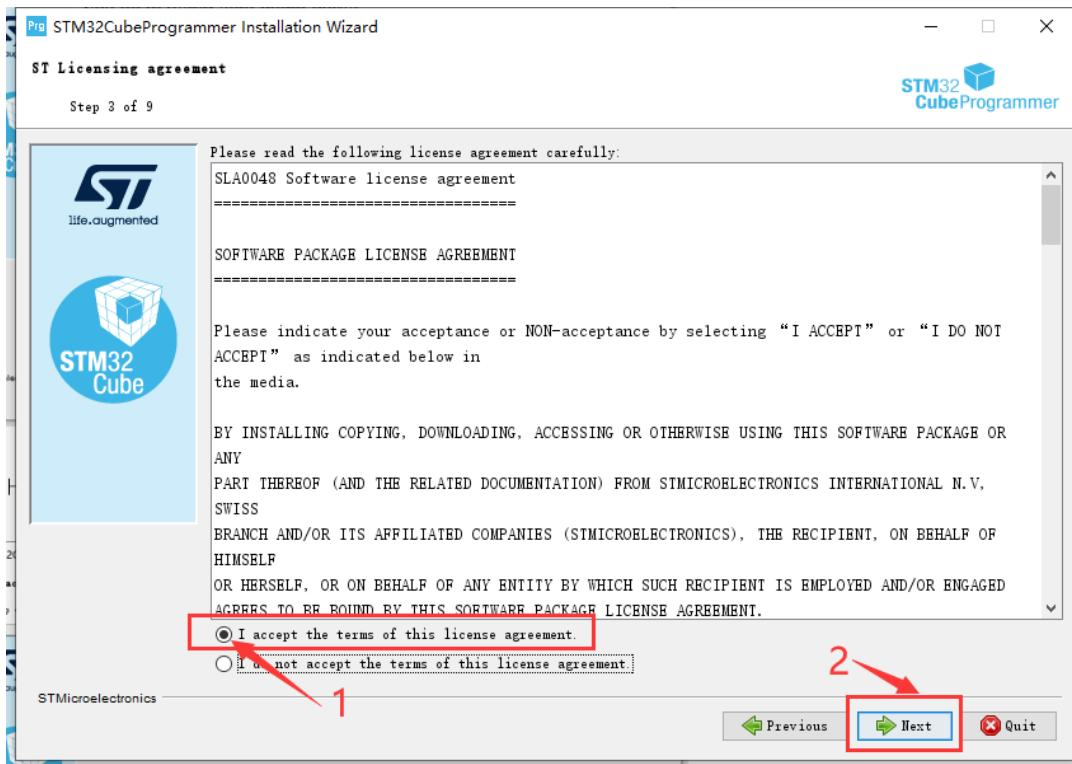

Figure 8-3
- 4) Check I accept... , as shown in Figure 8-3, then click Next: